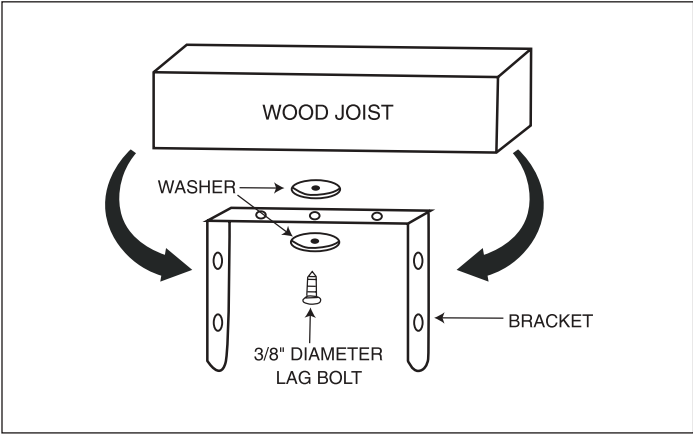

FIGURE 3A - SINGLE-BOLT MOUNTING
1. Mount the bracket with the wood joist. Refer to Figures 3A and 3B.
- Place the 3/8" Diameter Lag Bolt(s) and Washers as shown in the Figures 3A or 3B.
- **Figure 3A:** For single-bolt mounting (center bracket hole only). If you want to swivel the heater, a longer lag bolt may be required to properly secure the heater (this bolt is not included).
If the heater is mounted on a single center lag bolt (see Figure 3A / 4A), you can adjust the entire heater and bracket assembly by turning it left or right.